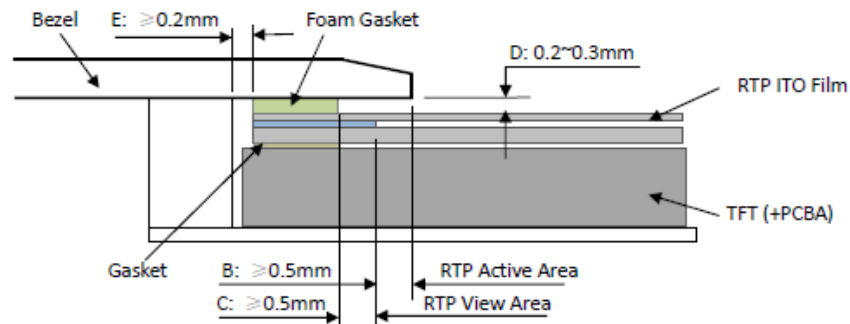

Figure 4
- It should bezel touching the RTP Active Area (A.A.) to prevent abnormal touch.It should left gab  $D=0.2\sim 0.3\text{mm}$  in between. (Figure 4)
- Outer bezel design should take care about the area outside the A.A. Those areas contain circuit wires which is having different thickness. Touching those areas could deform the ITO film. As a result bezel the ITO film be damaged and shorten its lifetime. It is suggested to protect those areas with gasket (between the bezel and RTP).The suggested figures are  $B\geq 0.50\text{mm}$ ;  $C\geq 0.50\text{mm}$ . (Figure 4)
- The bezel side wall should keep space  $E= 0.2 \sim 0.3\text{mm}$  from the RTP. (Figure 4)
为避免面框直接压在动作区 (A. A.) 上造成误动作，面框与电阻触摸屏 (RTP) 之间应留有一定的空隙  $D=0.2\sim 0.3\text{mm}$  之间。(附图 4)
设计面框时，要注意用面框保护触摸屏四周的非保证操作区域，因为布线区域在此处形成一台阶，在此区域附近操作时 ITO Film 变形较大，容易导致 ITO 损坏而降低寿命。为保护 RTP 和避免误操作，在 RTP 与面框之间垫缓冲物 (Gasket)，我们建议设计面框应覆盖动作区的边缘，面框边缘到 V. A. 区的距离  $B\geq 0.50\text{mm}$ ；垫圈内边缘到 V. A. 区的距离  $C\geq 0.50\text{mm}$ 。(附图 4)
在设计面框与 RTP 组装时，应考虑到面框内侧与 RTP 外侧的间距  $E\geq 0.2\text{mm}$ 。(附图 4)